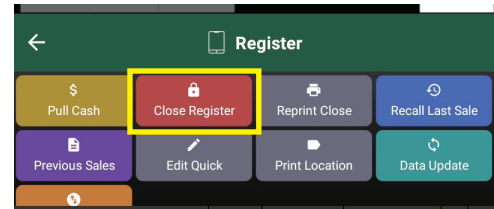

Figure 65
2. Select Close Register (Figure 65)